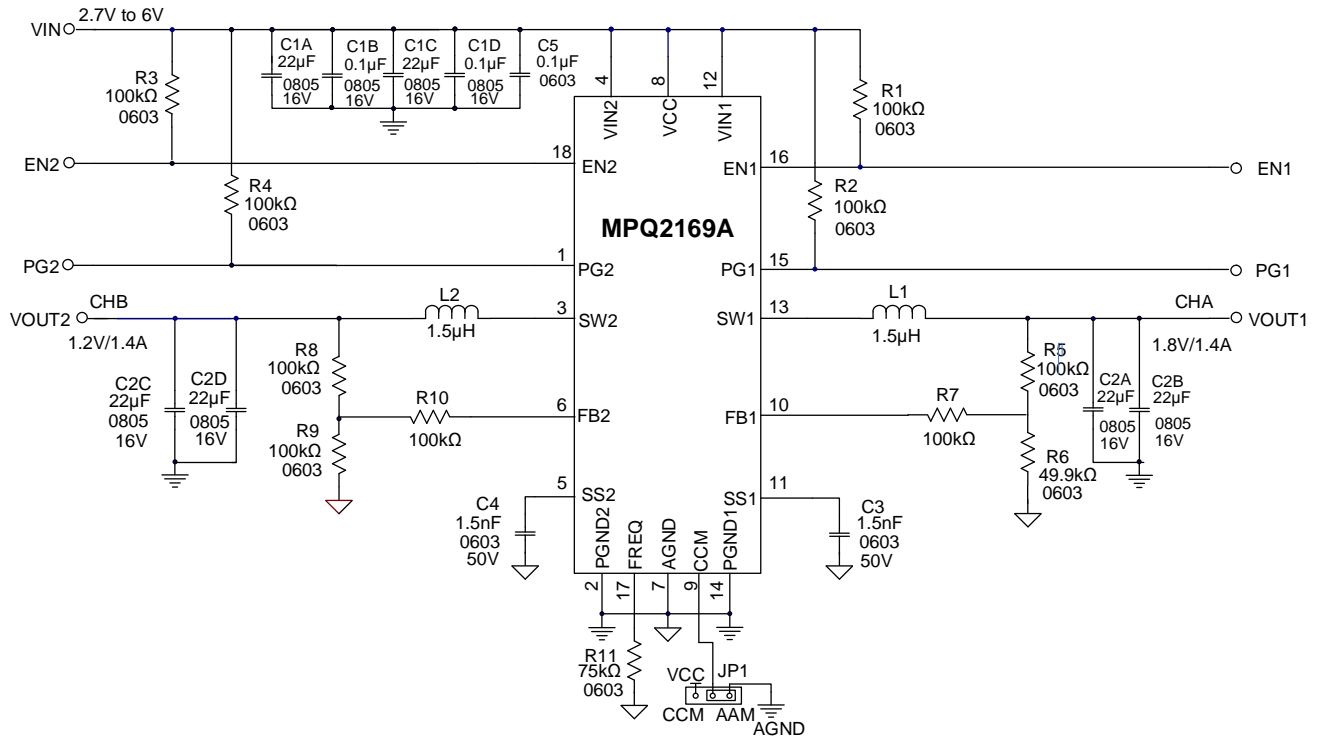

Figure 7: 1.4A/1.4A Application Circuit
- 7) The recommended PCB layout is based on Figure 7.